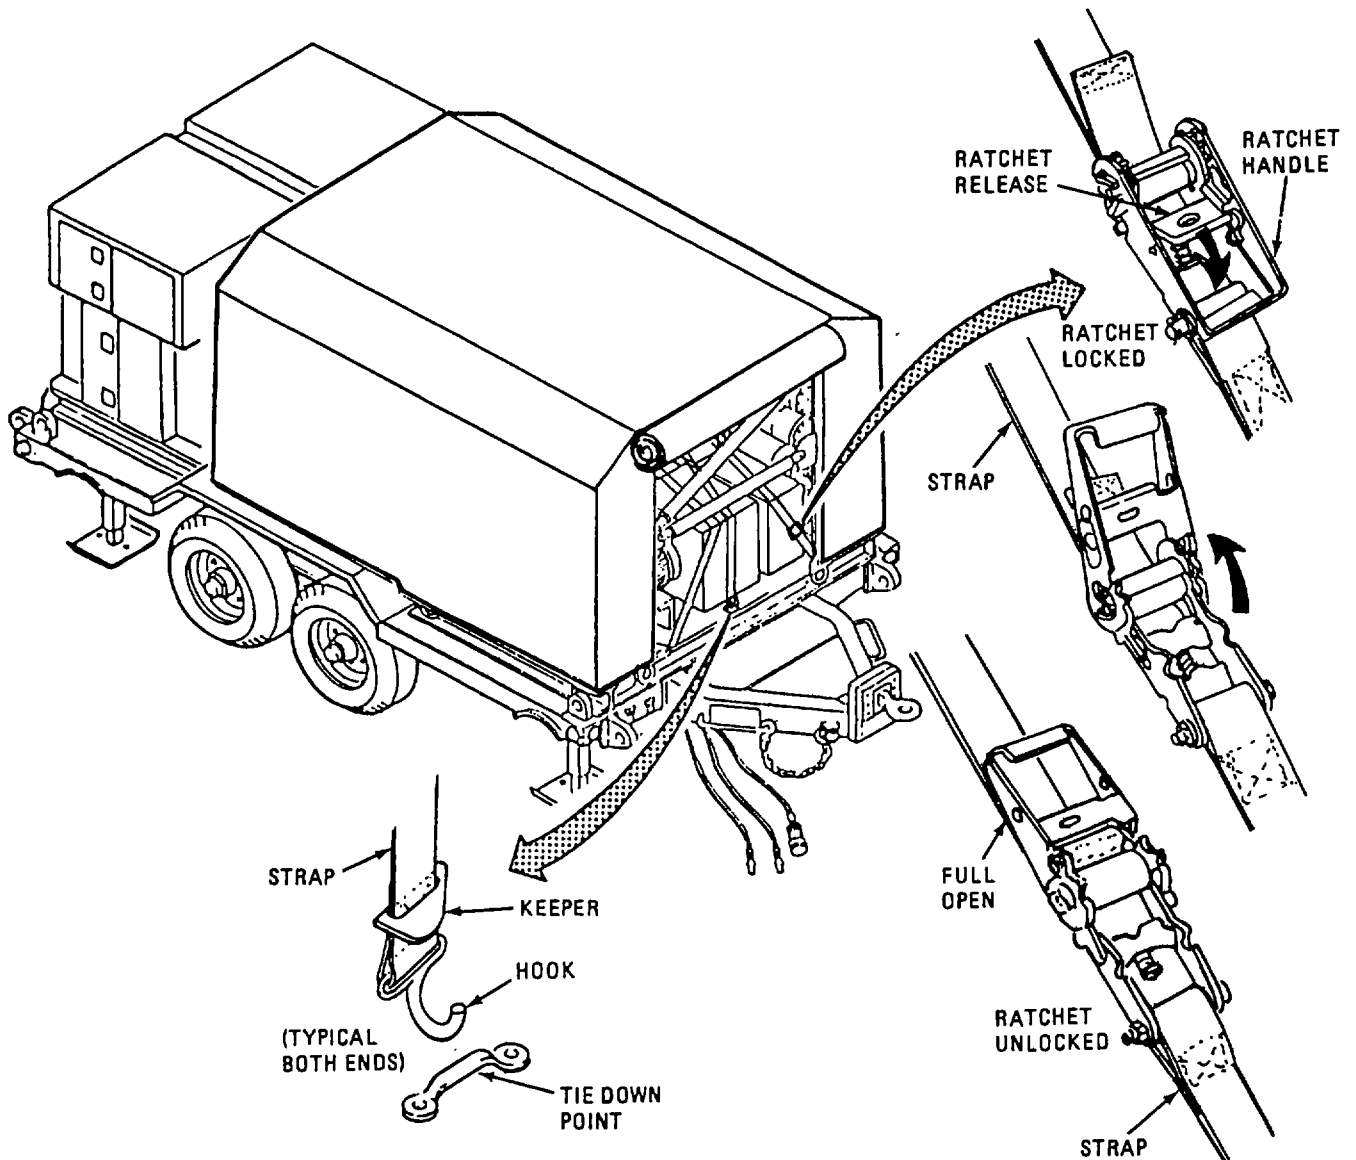

Figure 2-22. Cargo Straps.
- (1) Loosen three cargo straps. Refer to figure 2-22.